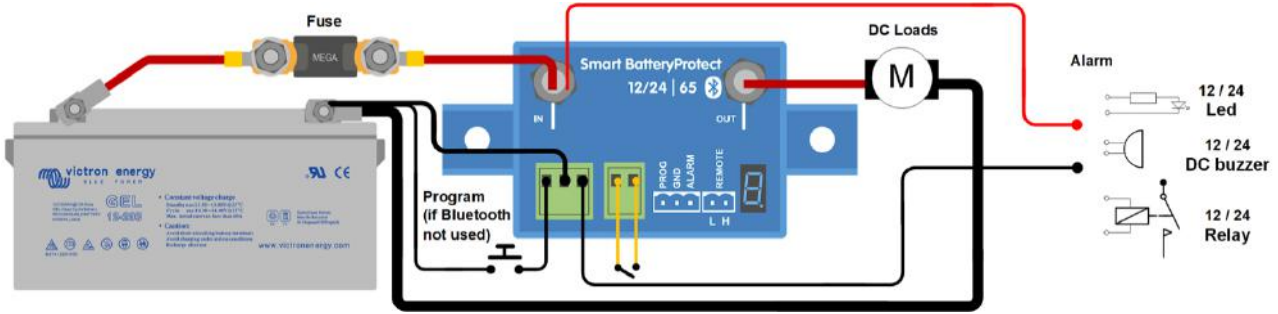

Figure 1: Connection diagram of the SBP-65 (use the remote input for system on/off functionality)
8. A remote on-off switch can be connected between Remote H and Remote L (see figure 1). Alternatively, terminal H can be switched high (to battery positive), or terminal L can be switched low (to battery negative).
9. A buzzer, LED or relay can be connected between the alarm output terminal and the battery positive (see figure 1). Maximum load on the alarm output: 50 mA (short circuit proof).
- Een zoemer, LED of relais kan verbonden worden tussen de alarmuitvoerklem en de batterij positief (zie afbeelding 1). Maximale belasting op de alarmuitgang: 50 mA (kortsluitvast).